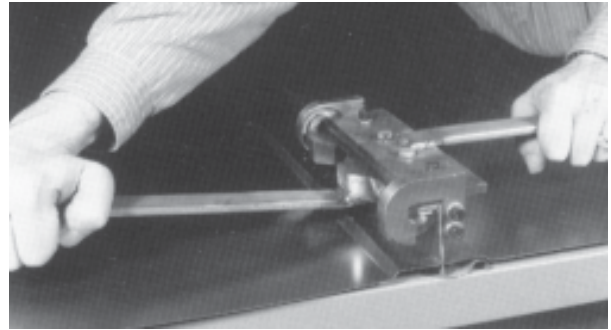

FIG. 2 - HAND SEAMING ZEE-LOCK SIDELAP TO PROVIDE A STARTING POINT FOR SEAMING MACHINE
- D. Prepare the sidelap seam for machine seaming by crimping the starting end of the sidelap using the Hand Crimper Tool (Fig. 2). This creates a seamed area where the Zee-Lock Seamer Machine will be positioned to commence seaming the sidelap. Crimp the sidelap every 4'-0" prior to seaming.